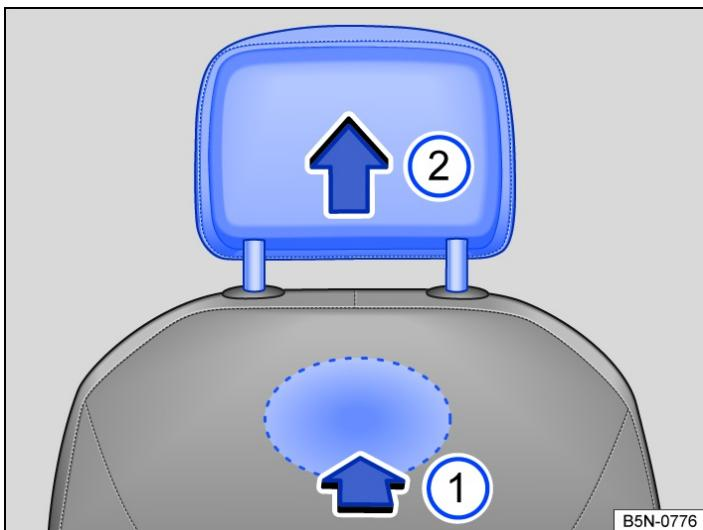

Fig. 1 Front head restraint: removing.
- To release the head restraint, feel for the recess in the marked area on the rear side and press it in the direction of the arrow → *Fig. 1* 1.
- Pull the head restraint out in the direction of the arrow → *Fig. 1* 2.